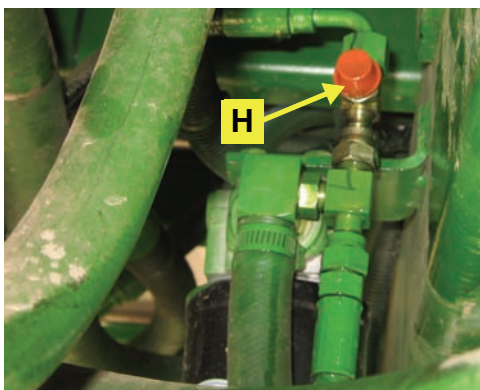
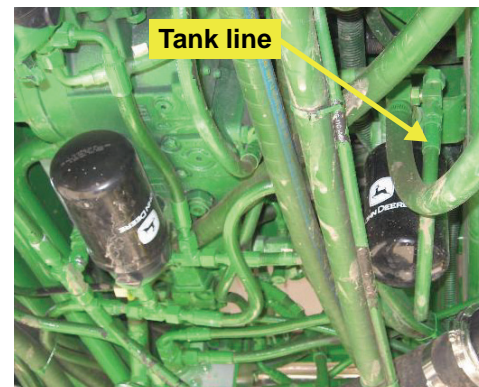

Figure 3e: Installed tank fitting
Figure 3d: Tank line
d. Locate the hydraulic filter under the center of the sprayer, near the transmission. Remove the indicated hose from the filter inlet and install the provided run-tee (H). Reattach the hose to the end of the run-tee. This run-tee will be used as the tank return for the Automated Steering Block. (Figure 3d & Figure 3e)